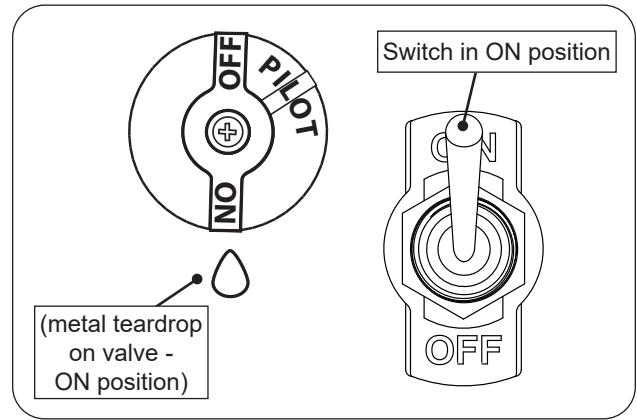

Fig. 28-1 Manual lighting
1. Ensure the pilot is burning. Turn the control knob counterclockwise ↶ to **ON** (see Fig. 28-1).
2. Flip the toggle switch to **ON** to ignite the burner (see Fig. 28-1).